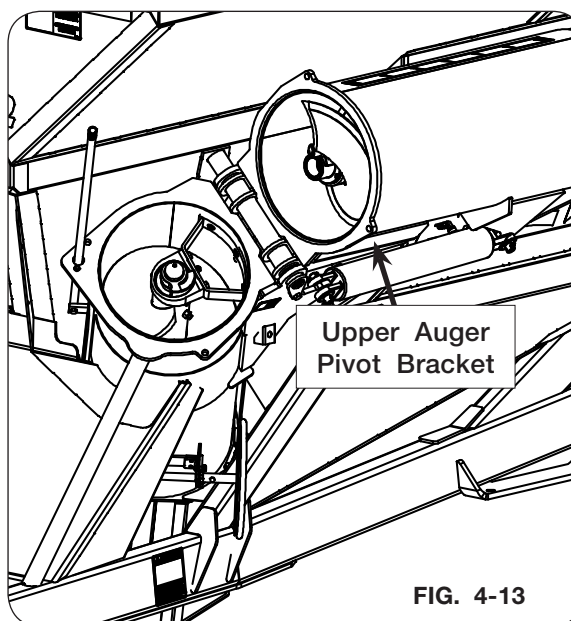

FIG. 4-13
6. With auger tube fully supported, loosen two $\frac{3}{4}$ "-10UNC x 3" capscrews and remove $\frac{7}{8}$ "-9UNC x 2" capscrews (9390-164) and flat washers (97041) from the upper auger pivot bracket. (FIG. 4-13)